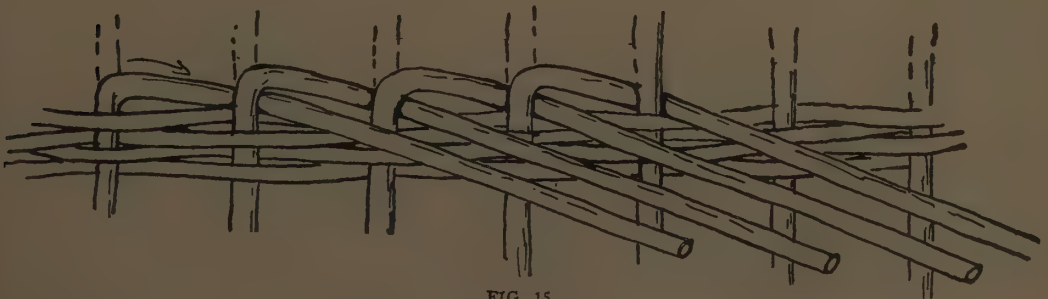

FIG. 15
- (a) Lay each spoke back of the next spoke at the right, and outside the basket (Fig. 15).